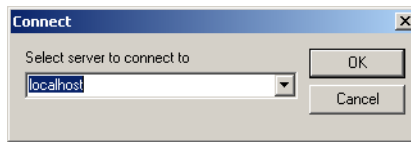

Figure 3-3 Connect dialog
3. The Connection Manager will prompt for the server with which to connect (figure 3-3). Enter the **IP address** of the active VMS Server and click the **OK** button.